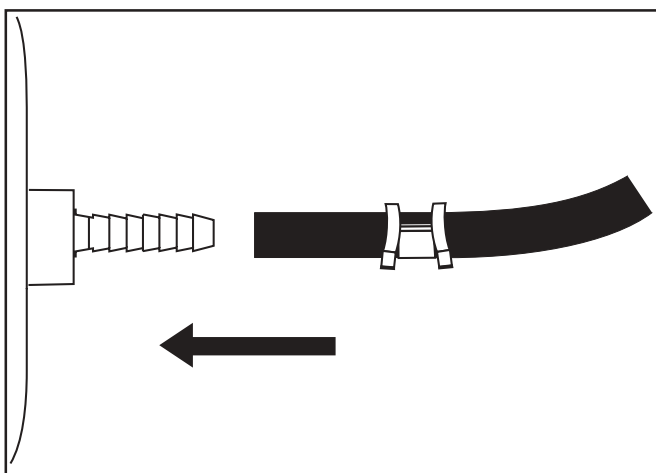

Figure 5
7. Insert air line through spring seat protector and slide on the air line clamp (Figure 5).
8. Push the air line onto the barbed cylinder stem, covering all the barbs (Figure 5).